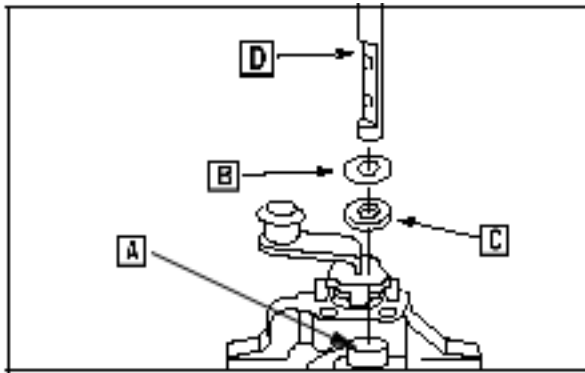

Fig. 81
Remove throttle plate screws ([A] Fig. 81) and remove plate (B).
Install throttle shaft bushing (A) to carburetor body with grooved side out, Fig. 81.
Place washer (B) and throttle shaft seal (C) on the throttle shaft ([D] Fig. 81).